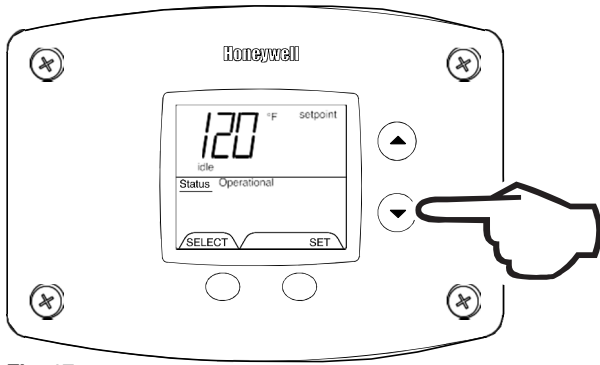

Fig. 17
1. Depress and hold 'Temperature Down' button until desired setpoint temperature appears in the display (Fig. 17).